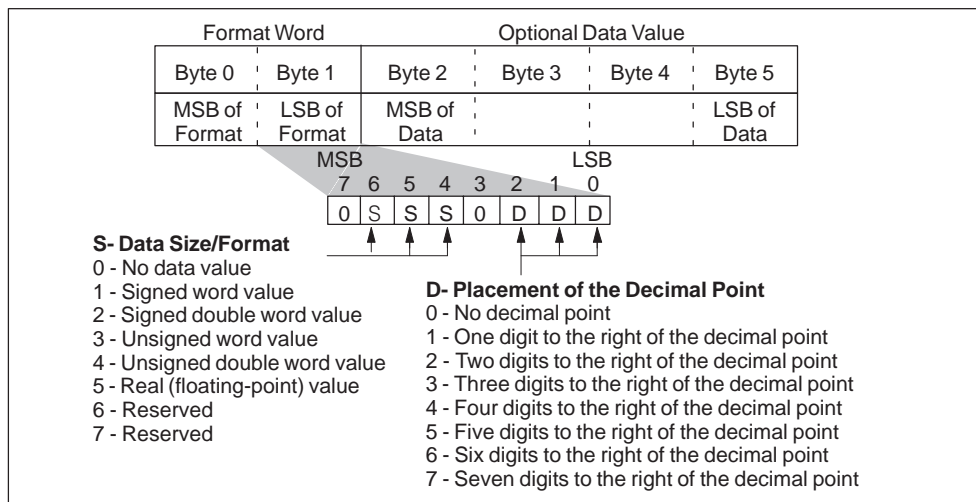

Figure D-18 Bit Values of Byte 1 of the Format Word
The least significant byte of the format word is used to specify the size, the format, and the position of the decimal point in a displayed value. The selection of signed or unsigned affects the editing range of a value. Unsigned values are restricted to positive numbers. Signed values can be either positive or negative. Figure D-18 shows the placement of the data size/format and decimal point bits in byte 1 of the format word.
- Real (floating point) numbers are displayed with the number of decimal places that you specified (see Figure D-18). The value is rounded to the designated level of precision. For example, if one decimal place were specified for the value 12.567, the TD 200 would display "12.6".
For real (floating point) numbers, the TD 200 uses up to 20 digits to represent the number. (This includes the number of decimal places that were specified in the format word. See Figure D-18.) If a number cannot be displayed within the number of digits available, the TD 200 displays “eeeeee” for that value.